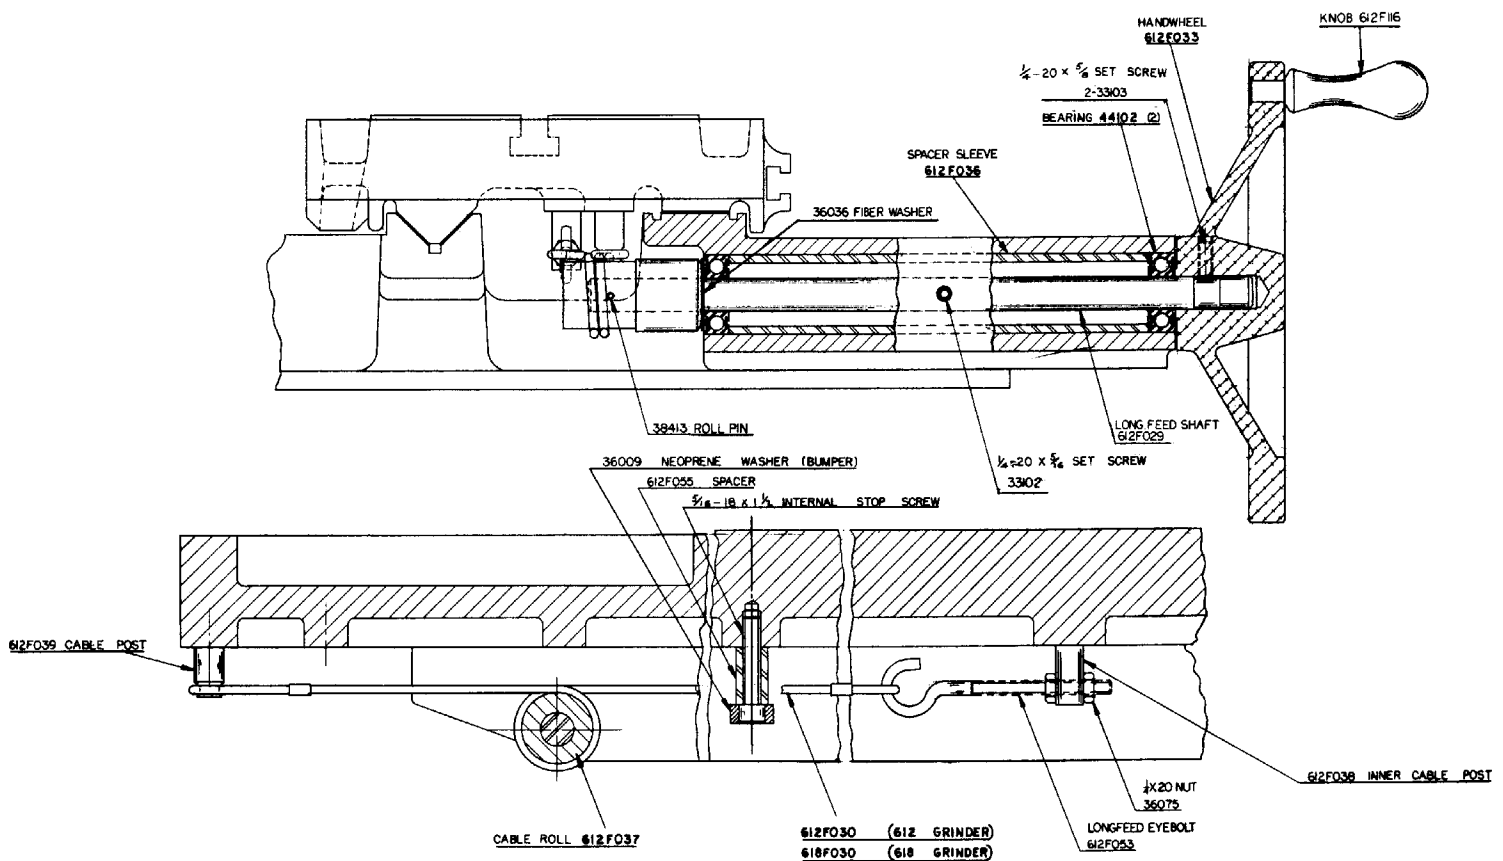

Figure 20
**A. Improper longitudinal feed (cable drive machines only)** If table does not move when hand-wheel is turned, tighten cable. Loosen cable hook locknut (*see Fig. 20*) and tighten the adjusting nut to pull the cable tighter. Do not overtighten, as this may cause cable to break prematurely, or wear a flat surface into the nylon cable covering. Tighten only enough to pull the table without slip.
**B. Cable broken or worn.** To replace cable, run table to the right and loosen the nut on the back of the hook until the cable loop can be slipped off. Remove the loop from the post under the left end of the table (*Fig. 20*). Slip the two coils of cable off the roll of the hand-wheel shaft and pull the cable out.
To install new cable, pass a stiff soft wire through the cable space from the right side of the machine. Bend over a loop or hook to attach the wire to a loop of the new cable and pull it back through the space. Form two coils in the cable and slip them over the cable roll. (*Be sure the front of the coil leads to the left as shown in Fig. 20*) Put the loop over the post on the left, draw the cable to the